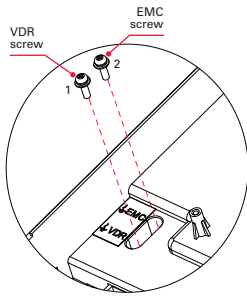

Figure 5-2-3f Drain wire of motor cable shield
- The drive is applicable to systems with neutral point grounded. If the drive is used in an IT power system with an ungrounded power system or a high resistance grounded [over 30 ohms] power system, it is necessary to remove both VDR and EMC screws 1 and 2 as shown in Figure 5-2-3f. Do not install a filter. Failure to comply may result in personal injury or damage to the drive.
- If a residual-current device (RCD) is used and it trips at start, remove the EMC screw 2 as shown in Figure 5-2-3f.